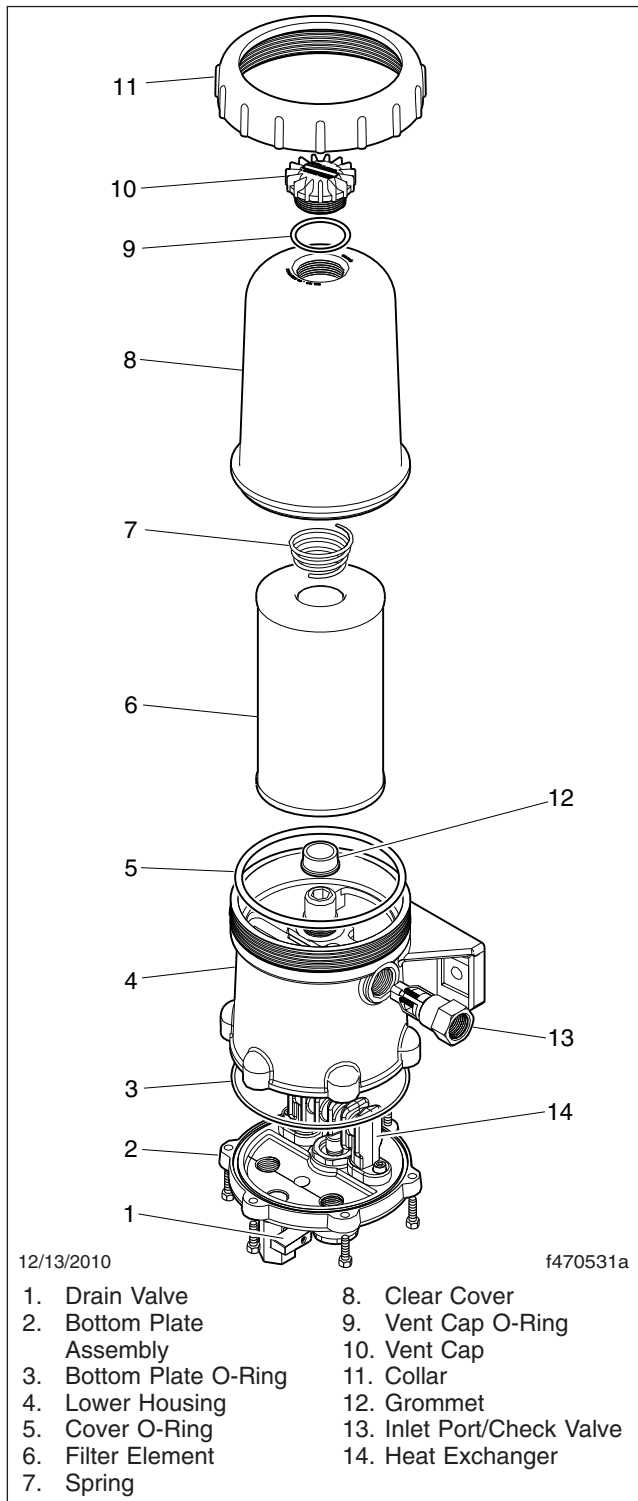

Fig. 2, DAVCO Fuel Pro 382
4. Remove the vent cap (Fig. 2, Item 10) and open the drain valve (Fig. 2, Item 1) to drain the fuel completely, then close the drain valve.
6. Remove the filter, cover O-ring, and vent cap O-ring. Dispose of them in an environmentally acceptable manner. See Fig. 2 or Fig. 4.